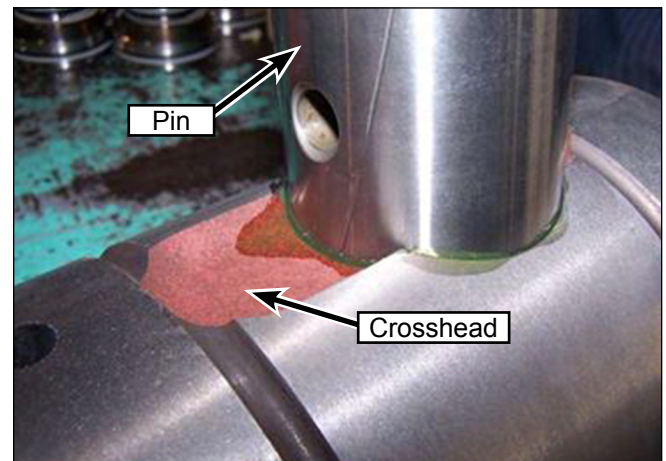

Figure 127: Pin Removal.
2. Slide the pin out from the assembly (Figure 127).